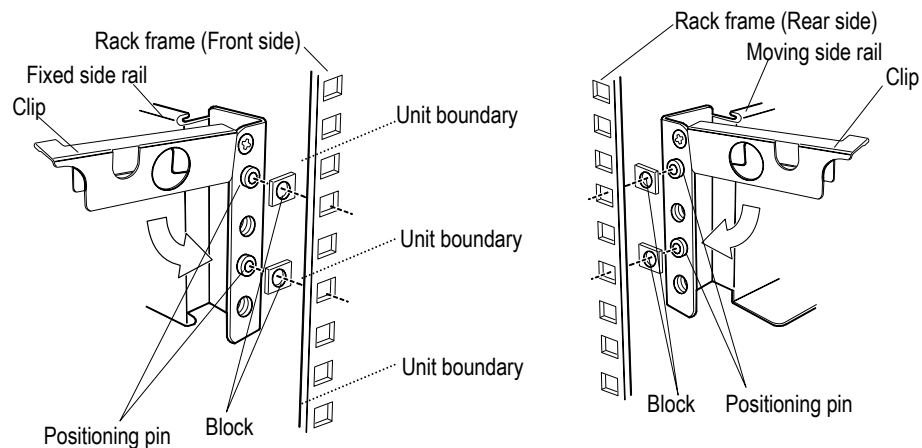

Figure 2.2.16 Installing Rack Rails (Square Hole) for Controller Box (2U)-2
- (ii) Install a block in each positioning pin of the fixed side rail (R) and moving side rail (R) (at 4 places in front and rear) (See Figure 2.2.16.)
- (iii) Fit the positioning pins for the fixed side rail (R) and moving side rail (R) the holes in the position to be installed on the right side of rack frame (at 4 places in front and rear) (See Figure 2.2.16.)